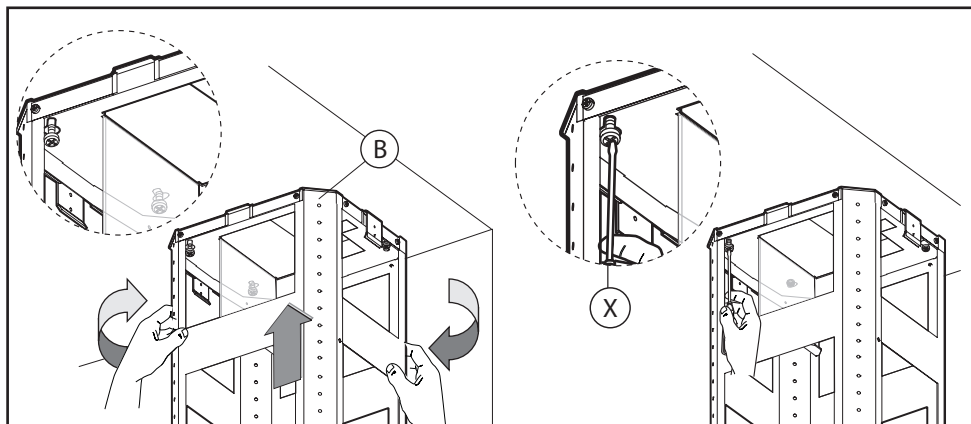

Fig.3
- Take the upper part of the structure **B** (**Fig.3**) and insert the 3 slots onto the 3 screws that are not completely tightened. Rotate slightly to fit (**Fig.3**). Drive in the fourth screw **X** and tighten the remaining 3 to allow definitive blocking of the upper part of structure **B**.
Fig.3: To fix the air diverter **A** on the support's bracket using the screw **B** as it is shown in the figure. Once that the air diverter **A** has been fixed, it is necessary to connect the flexible pipe (**6" ROUND FLEXIBLE METAL DUCT PIPE NOT INCLUDED**).